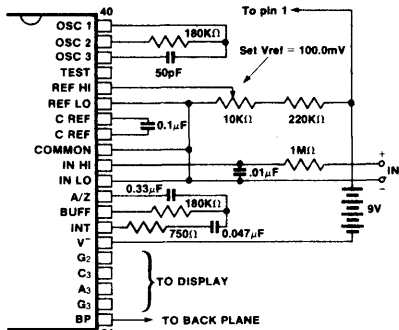

Figure 9: 7126 using the internal reference. Values shown are for 200.0mV full scale, 3 readings per second, floating supply voltage (9V battery).
* Values depend on clock frequency. See Figure 9, 10, 11.